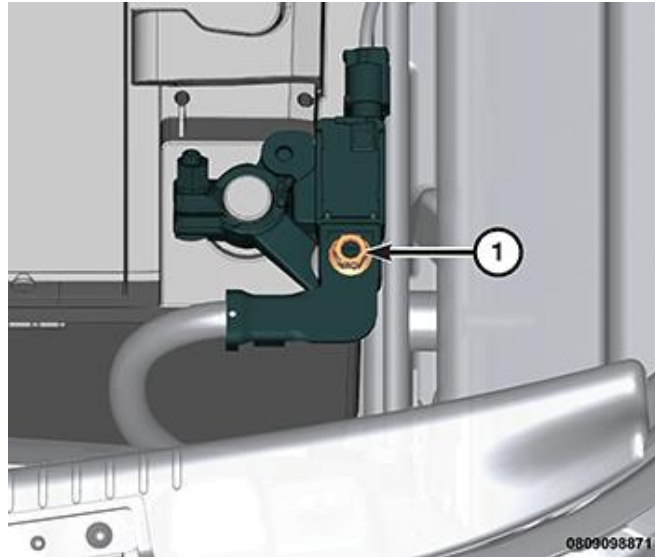

Figure 3 – Negative Cable Eyelet Nut
5. Remove the M8 hex nut (1) securing the battery negative cable eyelet to the IBS (Figure 3).
26. Install the M8 hex nut (1) to the IBS and tighten the nut to 15 N·m (11 ft. lbs.) (Figure 3).